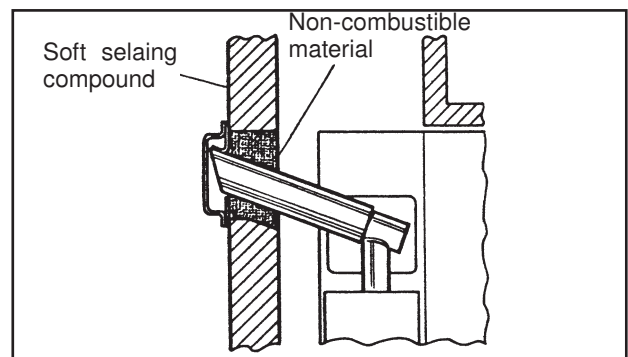

Fig. 7
The opening must be large enough to allow the insertion of a layer of non-combustible material around the extension tube as shown in fig. 7, but the opening in the outer skin must not exceed 70 mm (2 3/4") in diameter, otherwise the flange on the flue outlet may not cover it completely.
At this stage, refer to items 10 and 11 in order to prepare for the 12V and bottled gas connections. When these have been made, before finally positioning the flue extension tube (F), ensure that the portion passing through the wall of the vehicle is surrounded by non-combustible material as shown in fig. 7.